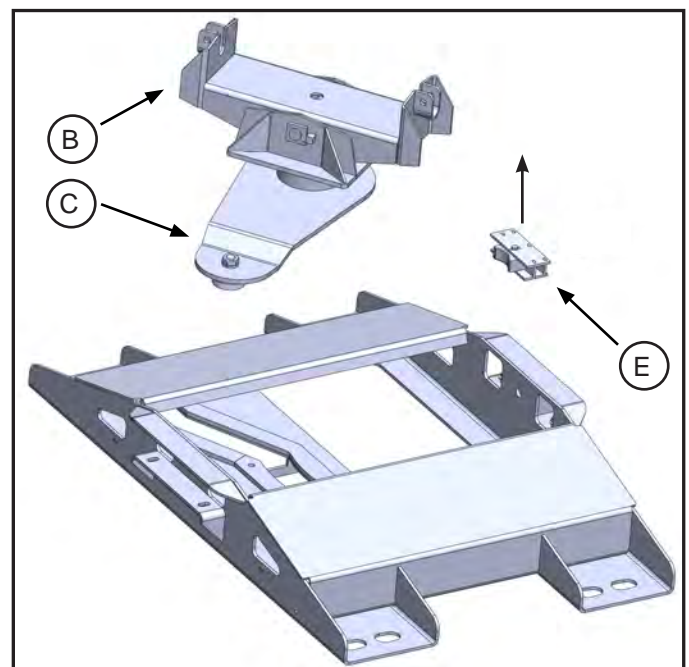

Figure 3
5. Remove the Nylon Stop Block {E} from between the way tubes and set aside (see Figure 3).